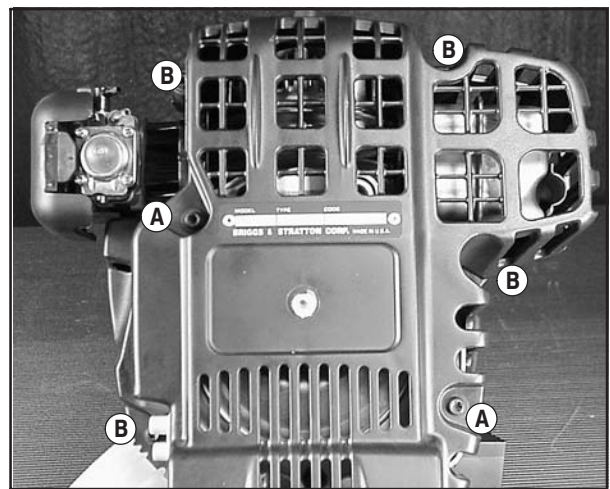

Fig. 10
- Install 2 machine screws (A) and 4 self threading screws (B) from cylinder shield side, Fig. 10. Torque machine screws (A) screws to 40 in. lbs. (5 Nm). Torque self threading screws (B) to 25 in. lbs. (3 Nm).